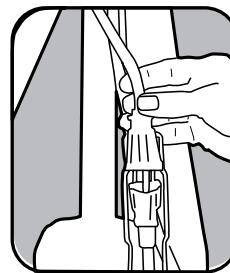

Fig. 1
3. Turn the knob on the bottom of the cord lock to tighten the lock and prevent the cords from pulling apart (Fig. 1).